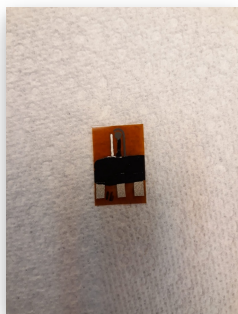

Figure 9
- a. Apply a layer of silver/silver chloride (Ag/AgCl) paste over the functional area of the reference electrode and let it dry (shown in *figure 9*).
- b. Cover the wires with nail polish and let them dry (shown in *figure 9*).